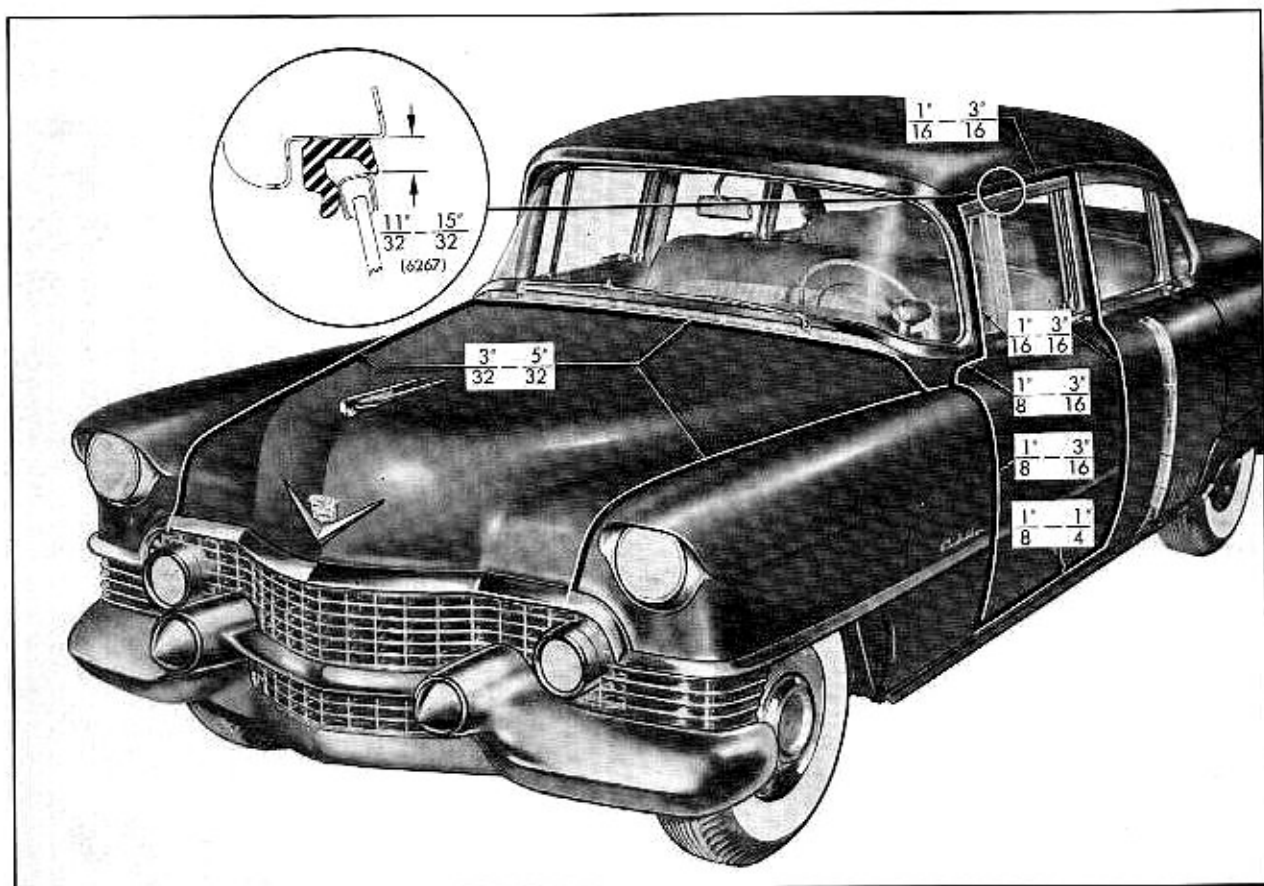

Fig. 3-18 Body Sheet Metal Clearances-Front
3. Check the spacing at the sides, bottom and top of door. See Fig. 3-18 for tolerances.
7. Shift door as required and tighten bolts. Recheck tolerances shown in Fig. 3-18.